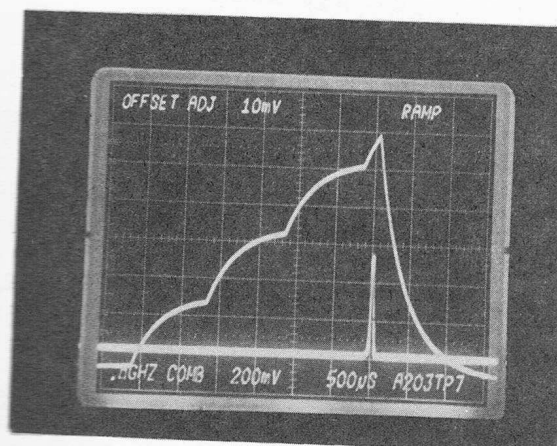

FIGURE 6-5
(6) Reduce the input frequency to 1.0 GHz. When the input frequency is exactly 1 GHz, the center line of the three comb lines on Channel A should null. This identifies the 1 GHz comb line. The 800 MHz comb line is the line preceding the 1 GHz line.
(7) Remove the ground from A203TP1 and place it on A203TP2. Depress the RESET switch.
(8) Adjust YIG Offset A202R72 so the ramp resets at 50% (.8 div) of the fourth ramp step (See Figure 6-5).
(9) Tune slowly from 1 GHz to 18 GHz. As the frequency is changed, adjust the DC offset and the horizontal position control of the oscilloscope to maintain the upper portion of the ramp on the display. Above 10 GHz, the time base will need to be increased to 10 msec/div.